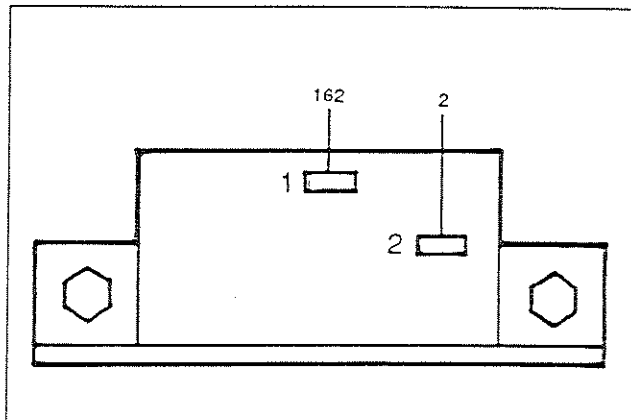

Figure 3. Excitation (DPE) Circuit Breaker
3. Connect the VOM test probes across the circuit breaker terminals (Figure 3). The meter should read "continuity".